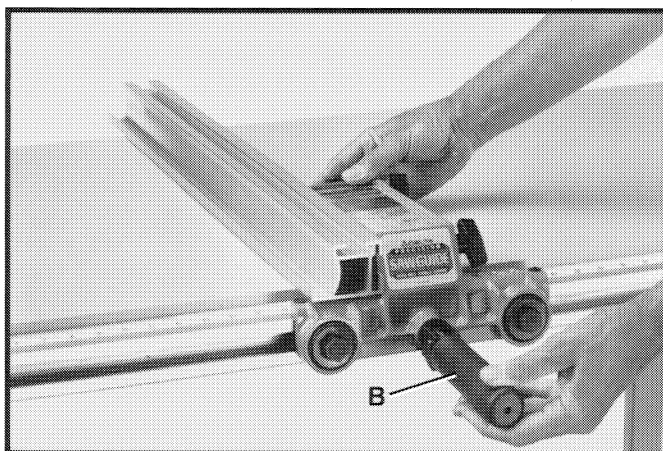

Fig. 72
4. To move the fence along the guide rail, simply lift up clamp lever (B), as shown in Fig. 72, slide fence to desired position on the rail, and push down clamp lever (B) to lock fence in place.